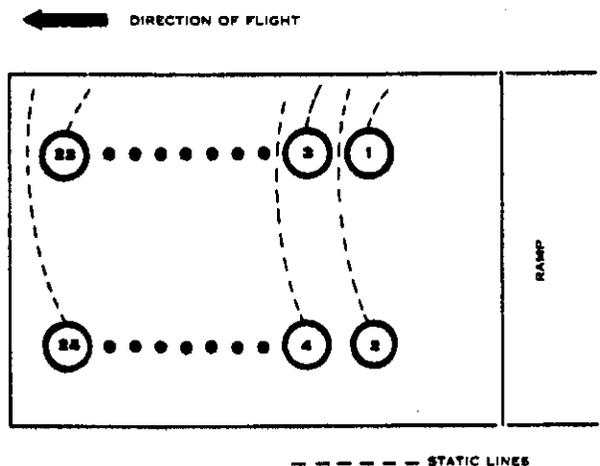

Figure 76. Seating arrangement and static line routing, aft end jumping, C-7A.
a. Twenty-four parachutists are seated in two 12-man sticks. The odd numbered personnel are seated on the starboard side and the even numbered personnel are seated on the portside (figs. 76 and 77).